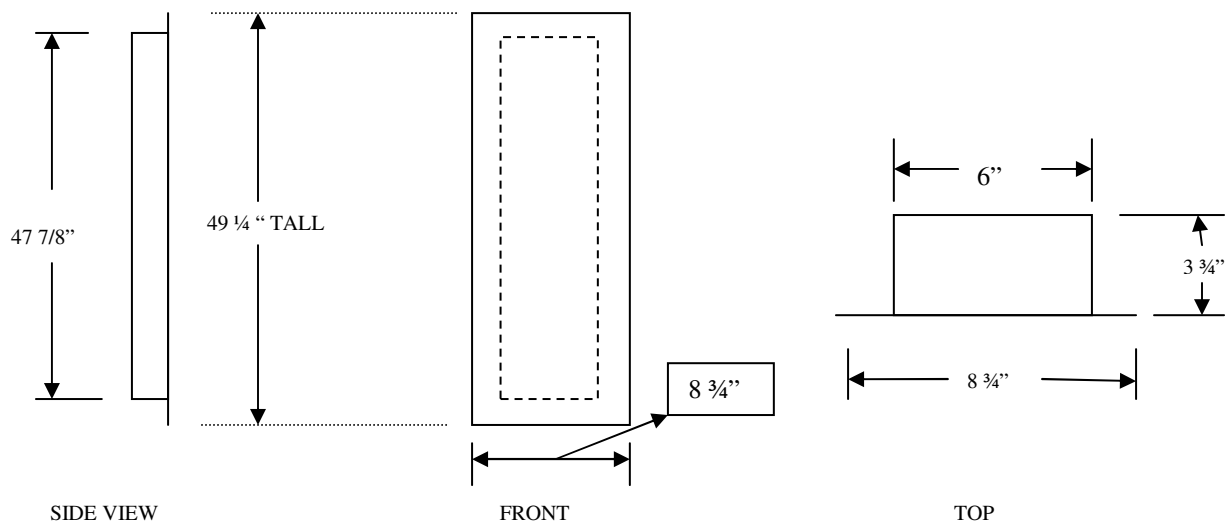

FIGURE 14
5.4.2 The detectors are provided with a mounting flange and can be mounted flush to the wall or surface mounted on the outside of the wall. Johnson recommends the detectors be flush mounted to prevent damage to the detector. If the detectors are surface mounted extra protection will have to be provided to minimize detector damage. **FIGURE 14** SHOWS THE DETECTOR DIMENSIONS